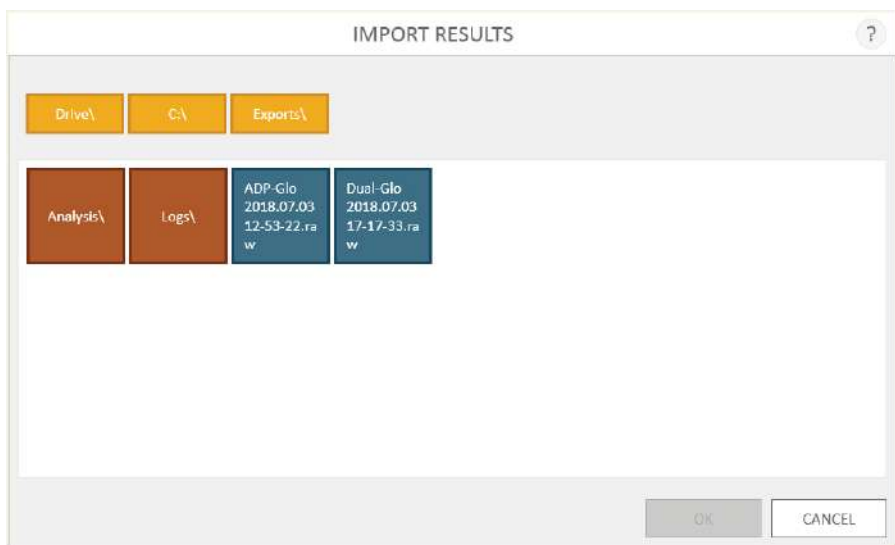

Figure 62. Importing Results, Templates or Analyses. Use the file browser screen to browse to the location of the desired import file.
- c. Touch the **Import** button near the bottom left side of the screen to open the ‘Import Results’, ‘Import Templates’ or ‘Import Analyses’ screen, depending on the current list being viewed (Figure 62).